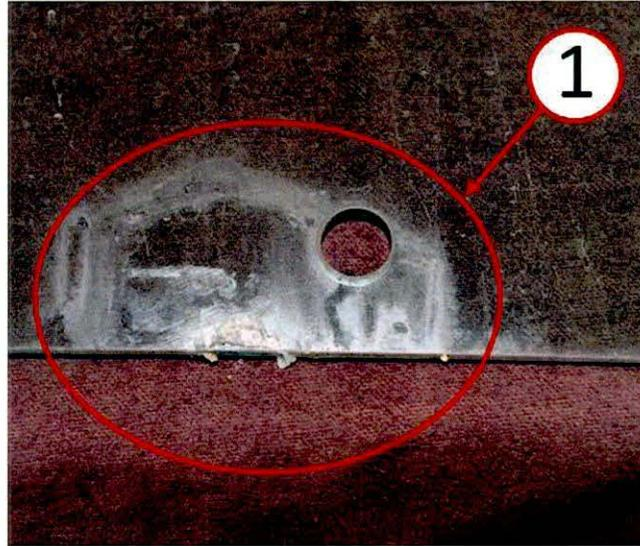

Fig. 5 Window Attachment Hole
6. Using window cleaner and clean rags, clean all surfaces of window glass around window regulator attachment area including inside the attachment hole. Rear door window glass can be cleaned with window installed in door (Fig. 5).